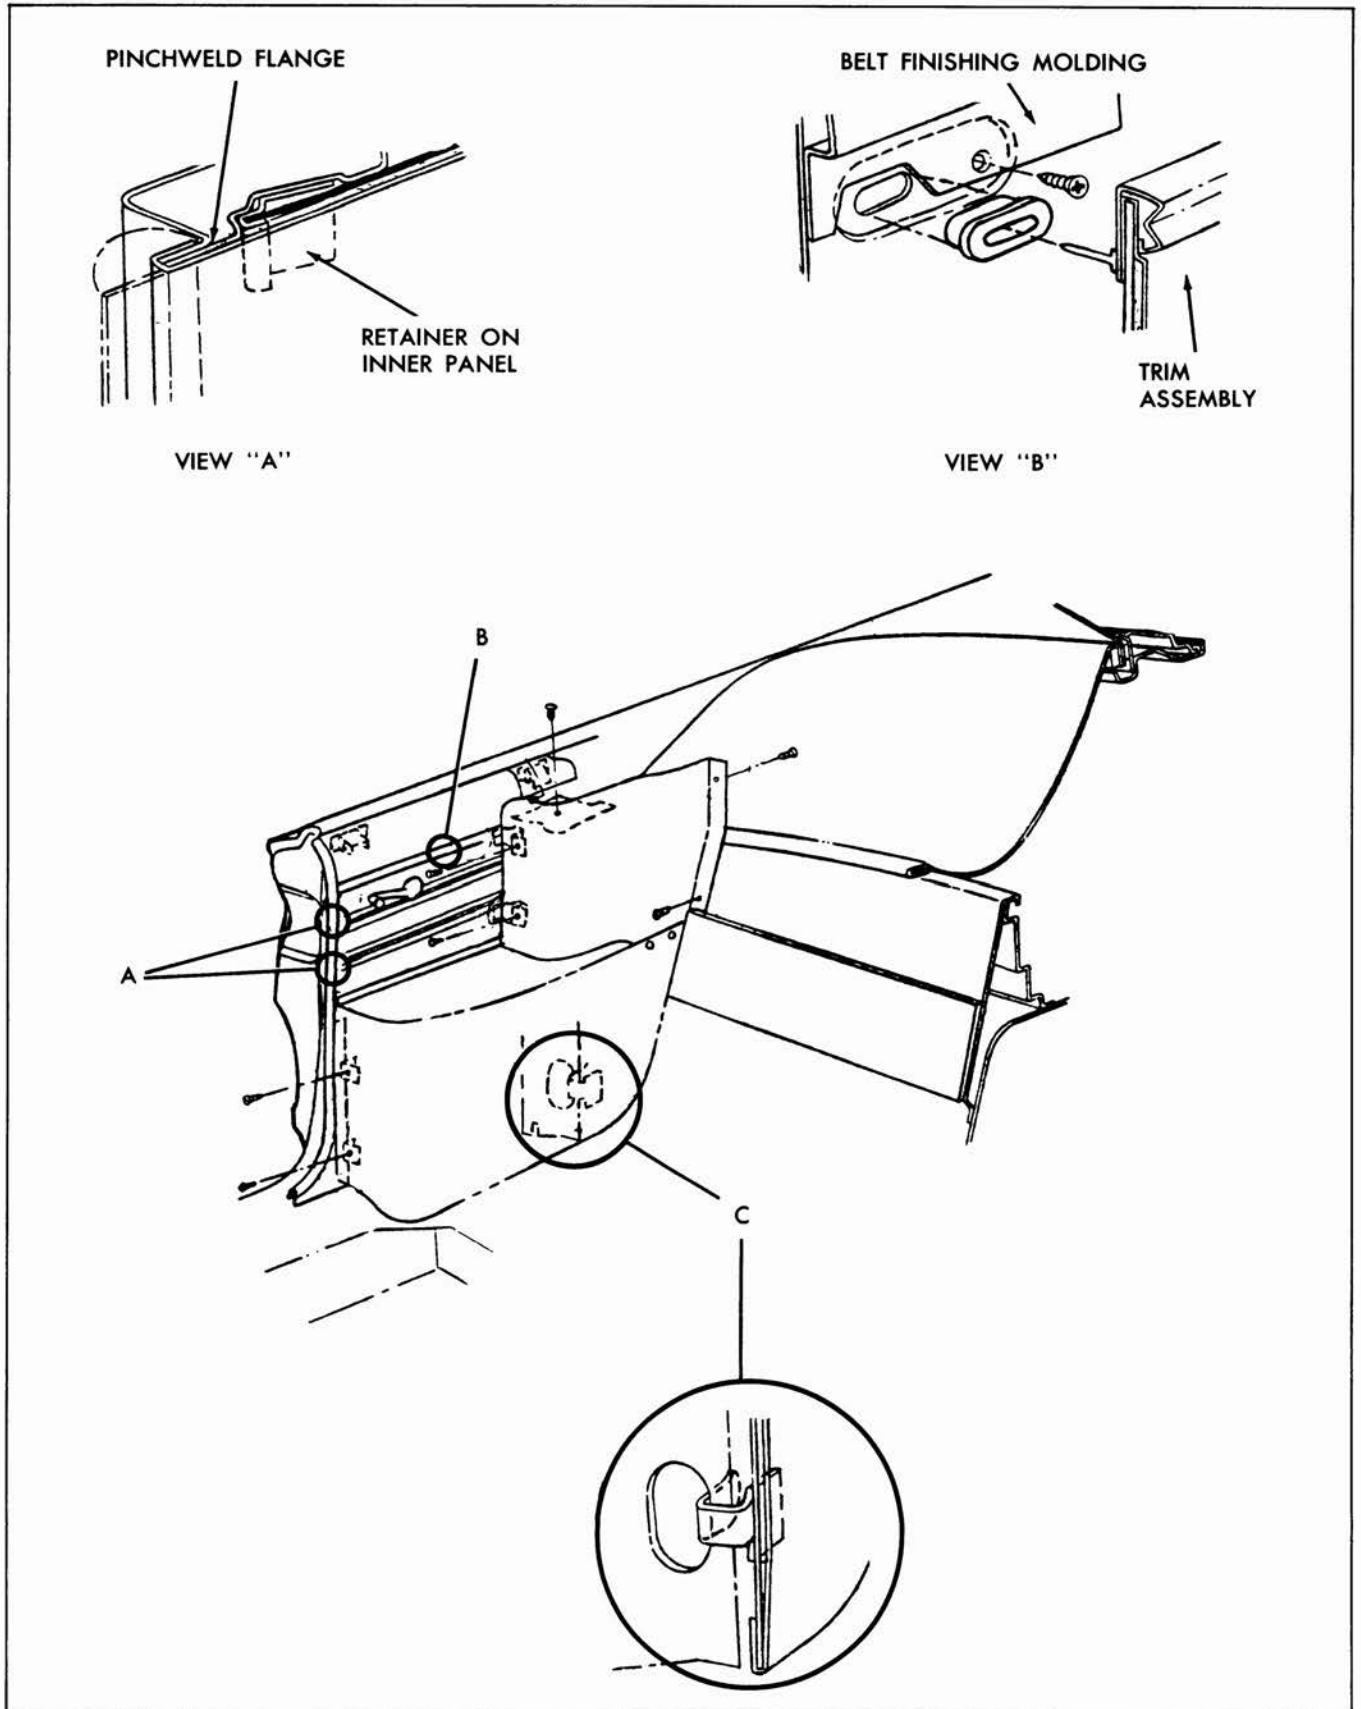

Fig. 14-5 Rear Quarter Trim Assembly
2. Remove screws securing folding top compartment side trim panel assembly (Fig. 14-5). Disengage side trim panel assembly retainer from folding top compartment brace ("C", Fig. 14-5). Disconnect electrical leads, where present, and remove side trim panel assembly.
3. Disengage pinchweld finishing strip from pinchweld flange immediately adjacent to trim assembly upper section. Using trim pad removing tool J-6335, disengage trim assembly retaining nails from inner panel along upper edge of trim assembly (View "B", Fig. 14-5).
4. Disengage forward edge of trim foundation from retainers on inner panel (View "A", Fig. 14-5). Pivot rear edge of trim assembly forward, using forward edge, which overlaps pinchweld and is cemented to pinchweld flange outboard surface, as a hinge (View "A", Fig. 14-5).